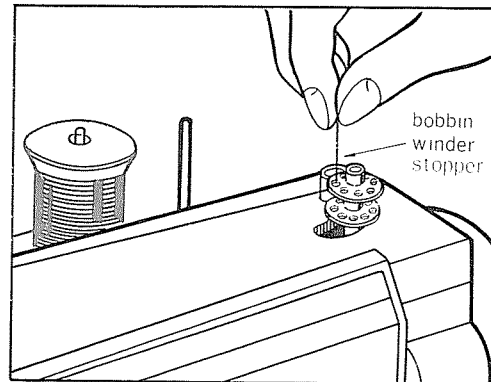

Fig. 2
5. Pass the end of the thread through one of the holes in the bobbin from inside to outside. (Fig. 2)